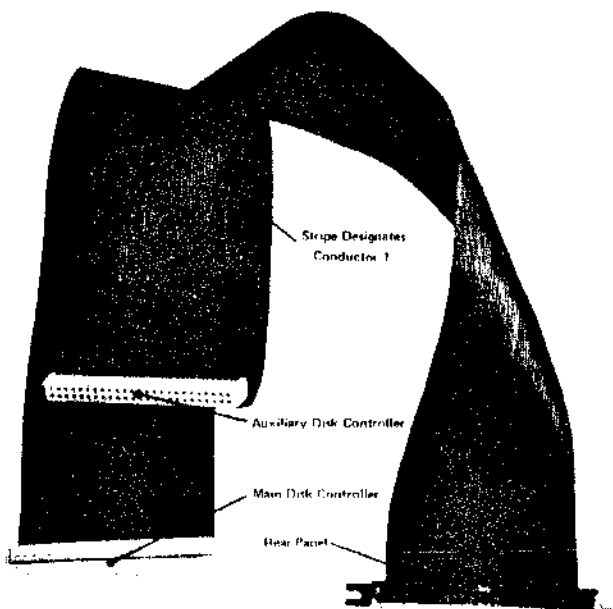

Figure 2-5 – 5200 Disk I/O Cable – 800247
2.10 *5200 Disk I/O Cable* illustrated in Figure 2-5 interconnects the Main Disk Controller to the 5200 Computer Unit rear panel and Auxiliary Disk Controller in the 5200 chassis. The cable extends the I/O signals to one additional Auxiliary Disk Controller, e.g., a 5010 Unit. This cable has 50 conductors and is 28 inches long.